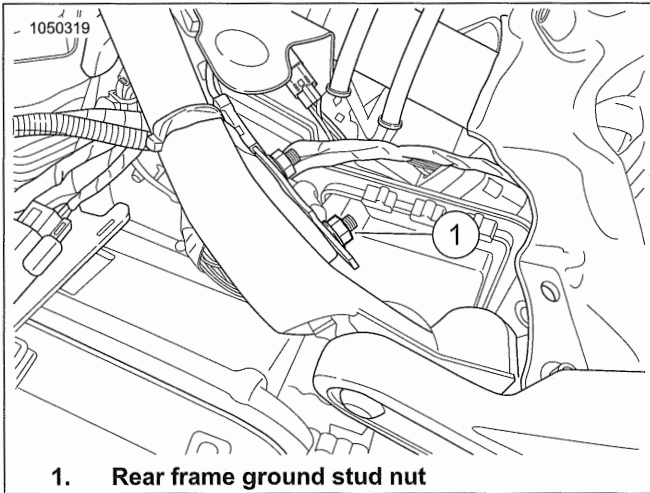

Figure 7-153. Rear Frame Ground Stud
- 1. See Figure 7-153. Remove battery ground cable on rear frame ground stud (1).
- 3. See Figure 7-153. Route battery ground cable to rear frame ground stud. Install nut. Tighten.